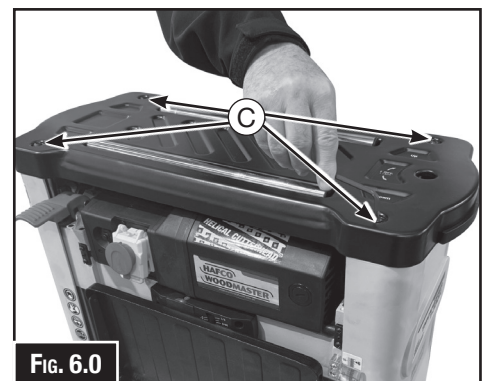

FIG. 6.0
3. Remove the top cover of the thicknesser by removing the 4 hex cap screws (C) located on the top of the machine. (Fig. 6.0)